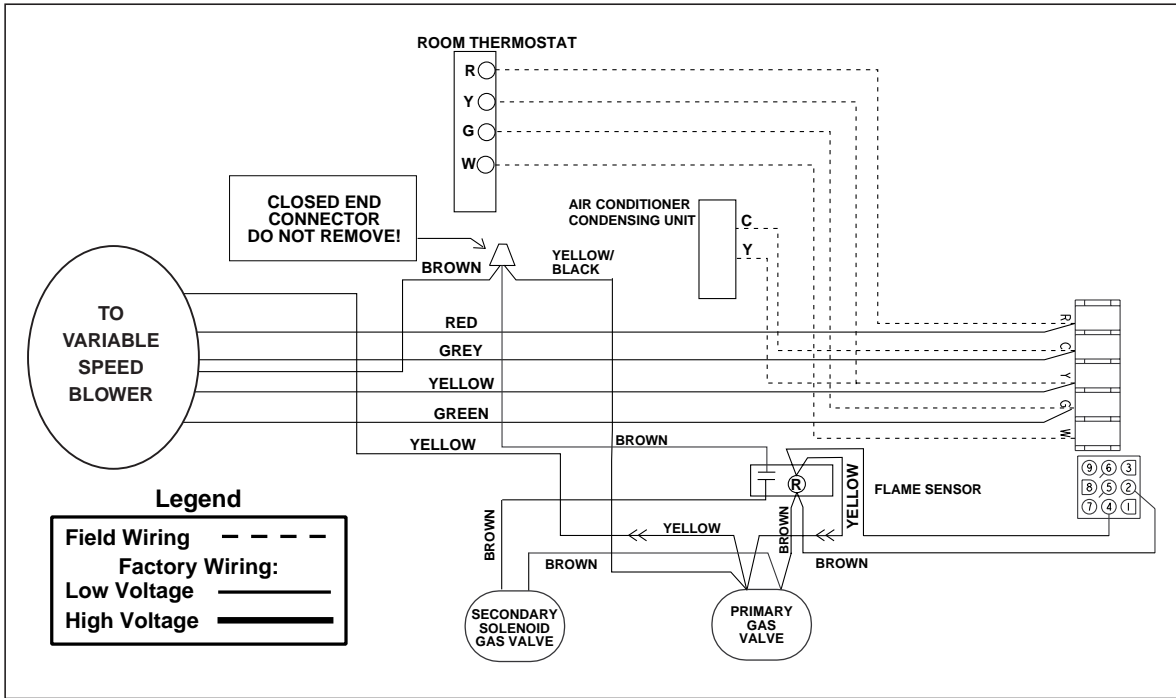

Figure 16b. High Fire Only Configuration
2. *High fire only configuration* – As shipped from the factory, the primary and secondary gas valves are connected in parallel (See Figure 16b). This defeats the staging feature and the furnace operates on high fire only. All of the burners will operate on a call for heat and the variable speed blower will operate at a higher speed.